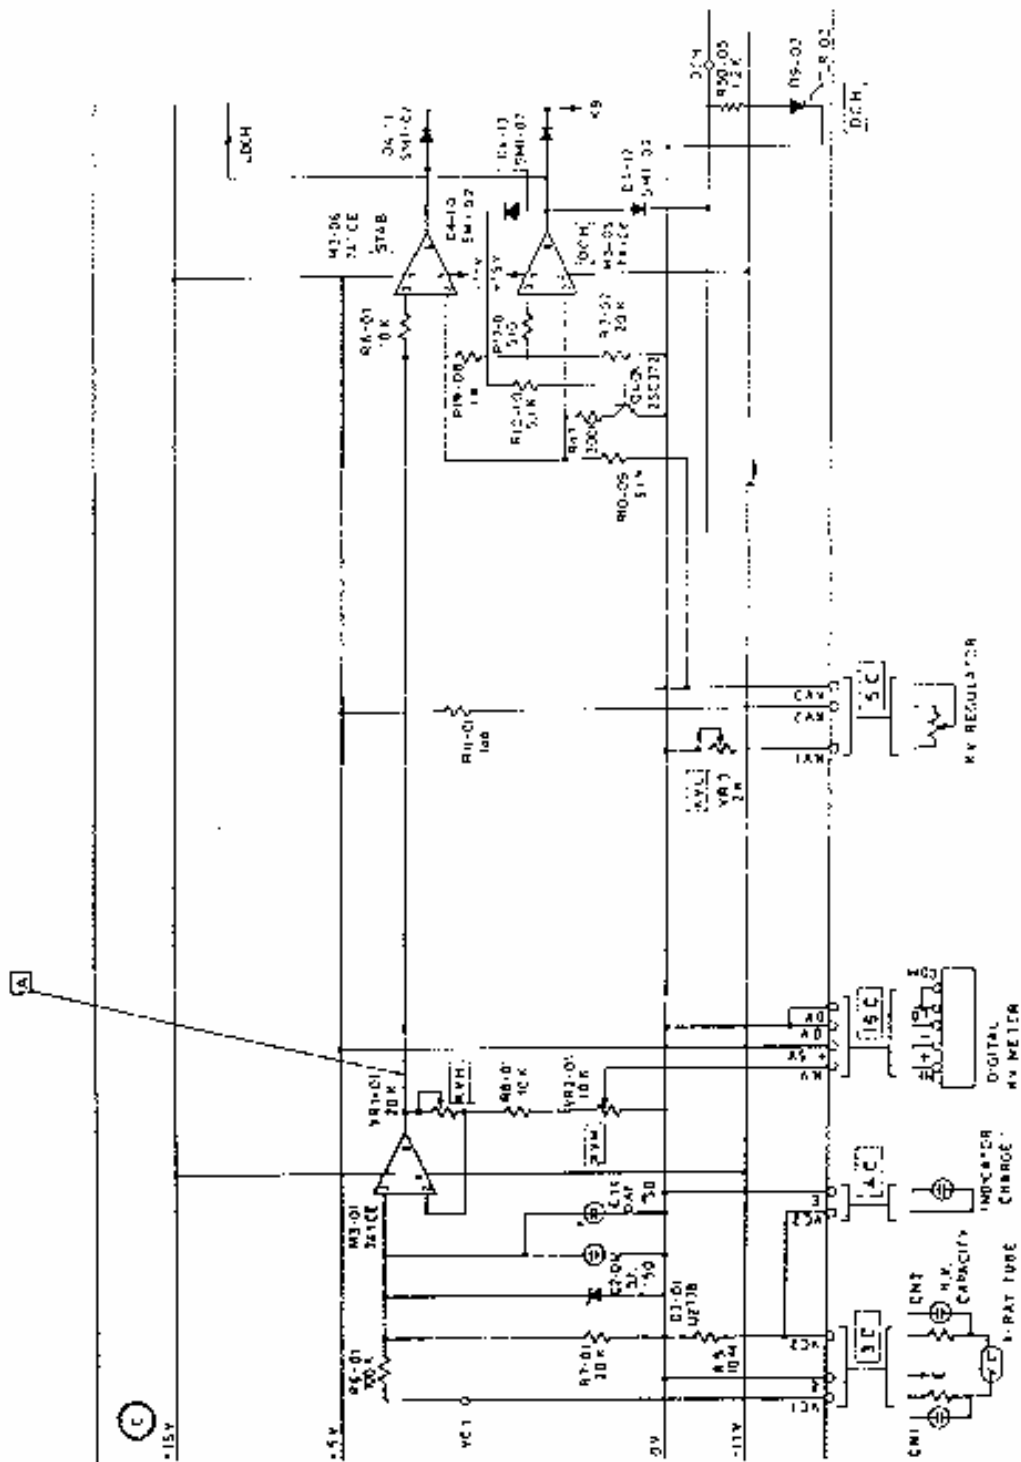

Fig. 3-3-2
(1) Figure 3-3-2 is the connection diagram of this circuit.
- (6) In Fig. 3-3-2, OP AMP M3-05 [DCH] is responsible for "automatic discharging". During charging or right after complete charging, the voltage at non-inverted input terminal 3 of M3-05 remains lower than that at
(8) Variable resistors in Fig. 3-3-2 give following functions respectively.